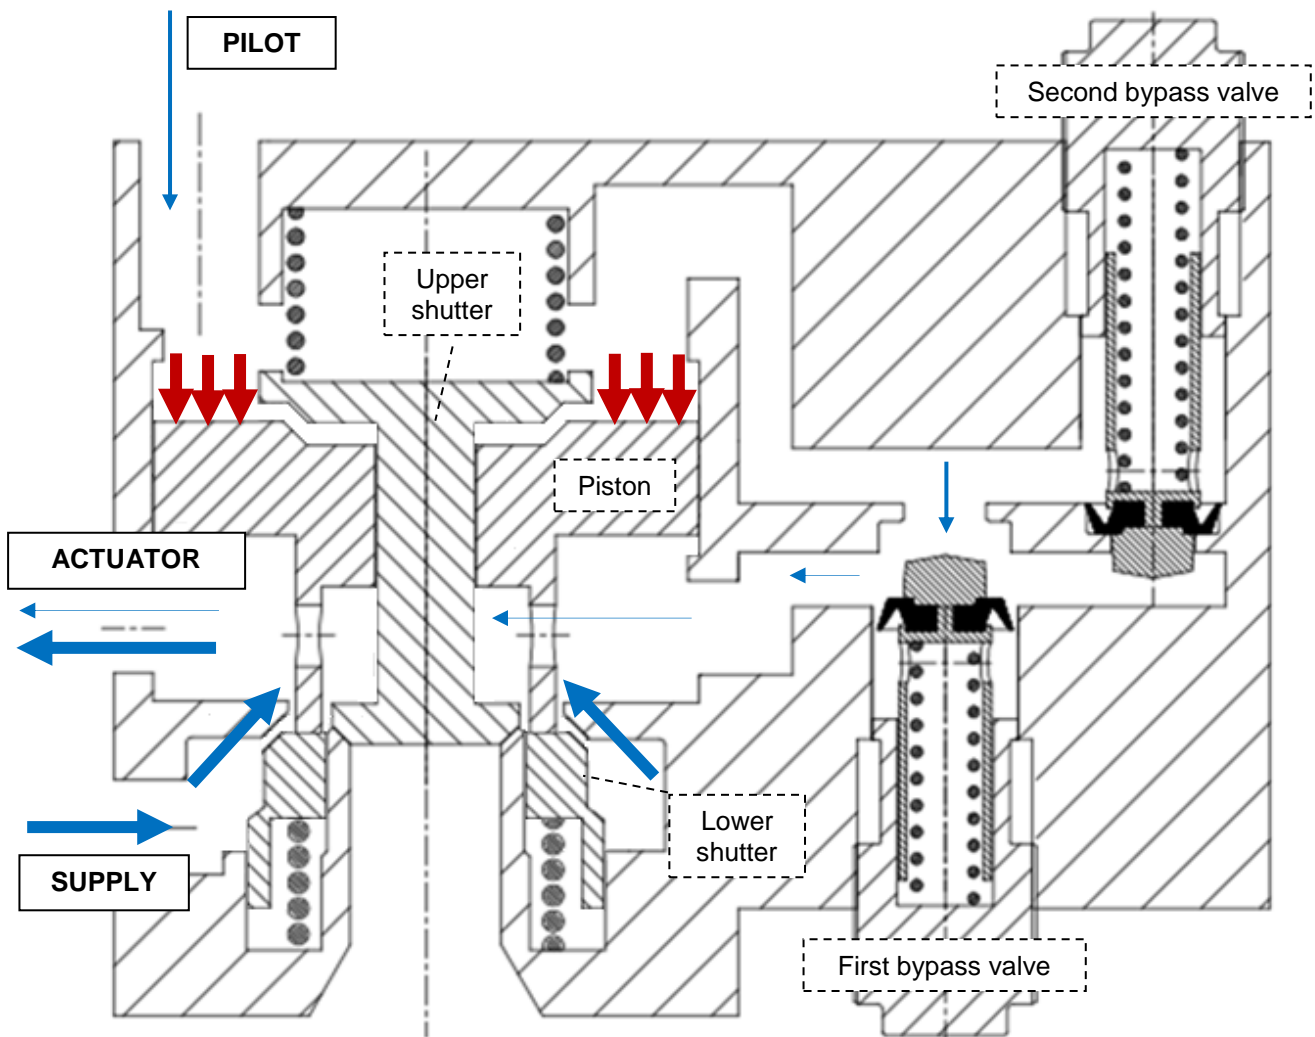

Figure 5 - supply setup: modulating mode (sketch)
- b) if the flow rate is greater than a threshold value depending on bypass valve adjustment, the bypass valve throttling generates a pressure drop between the two side of the piston and the working fluid pushes down the piston and the lower shutter, allowing the connection between the BW supply chamber and the actuator chamber. This case is called "modulating mode" (figure 5);